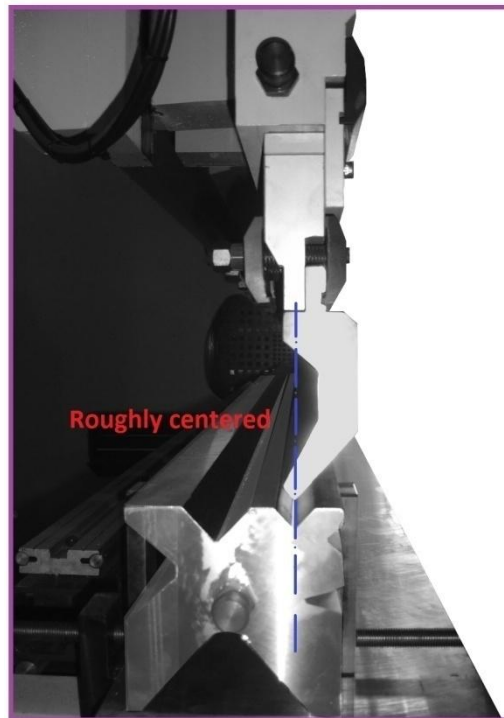

Figure-39: Roughly centered.
3. Place back the bottom tool by roughly centering it on the table (See Figure-39).